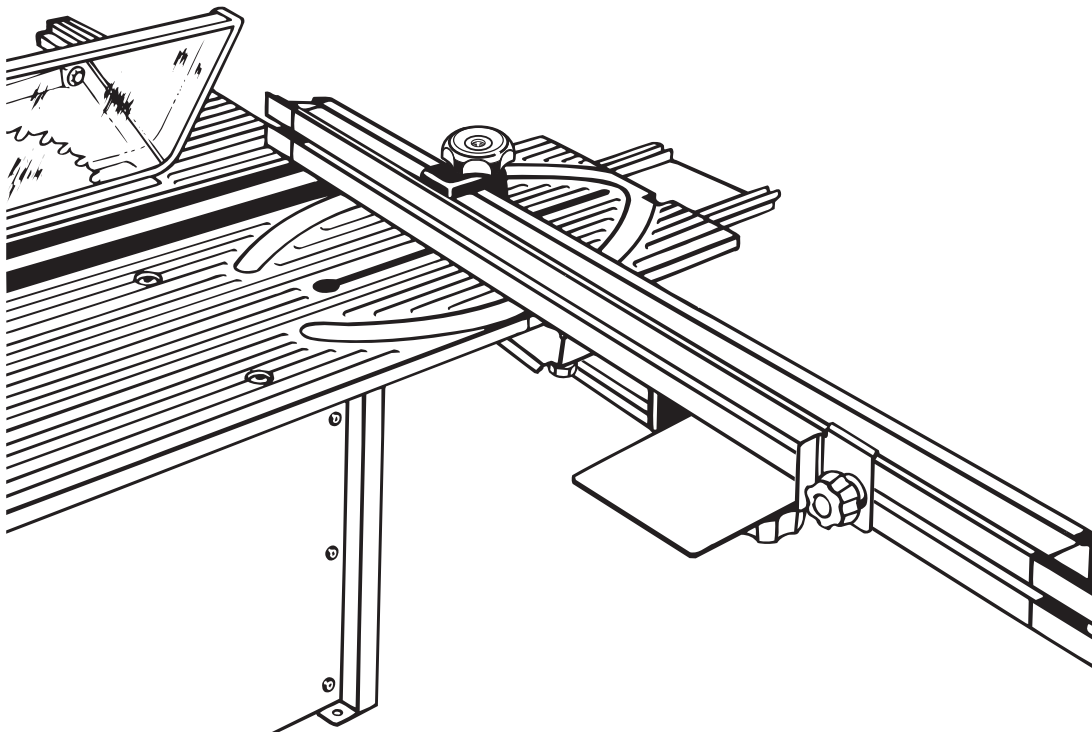

Fig. 5
- Orient the support bracket as shown in figure 5. Slide the bracket under the edge of the sliding miter table.
See Figure 5.
After assembling all the parts, your long miter fence should be similar to the illustration shown in figure 5.